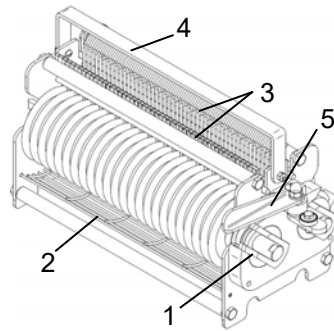

Fig. 6.2.4
- Insert the scraping combs (Ref. 3 Fig. 6.2.4).